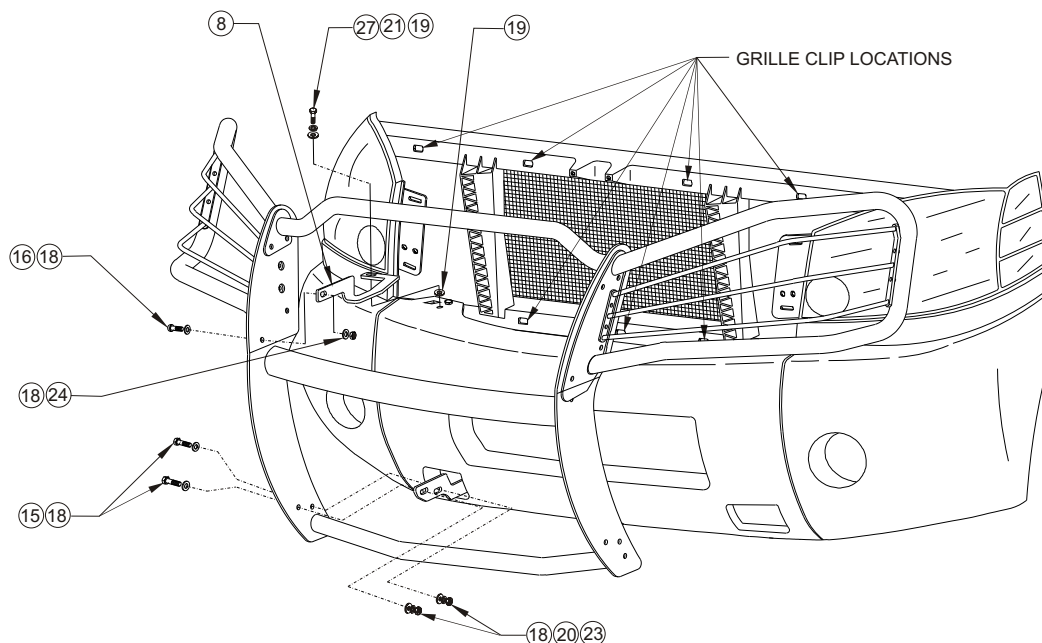

FIGURE 2
- STEP 4. Carefully remove grille from vehicle by removing seven grille clips a 1/4" turn. **SEE FIGURE 2.**
- STEP 6. Determine passenger and driver uprights, center and bottom tubes. **NOTE:** Uprights are positioned so raised side of bolt holes are facing each other. **SEE FIGURE 2.**
- STEP 10. Attach Sportsman to brackets using 3/8" fasteners as shown. Hand tighten. **SEE FIGURE 2.** Center and level Sportsman on vehicle. Tighten all bracket fasteners.